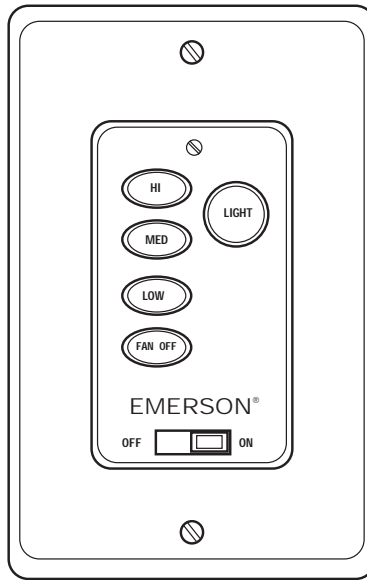

Figure 23
Your Fan/Light Wall Control (Figure 23) has full control of your fan and light. However, airflow direction is controlled by a slide switch on the switch housing.
- 2. To set the desired fan speed, press the HI, MED, or LOW buttons to operate your fan on high, medium, or low speed (Figure 23).